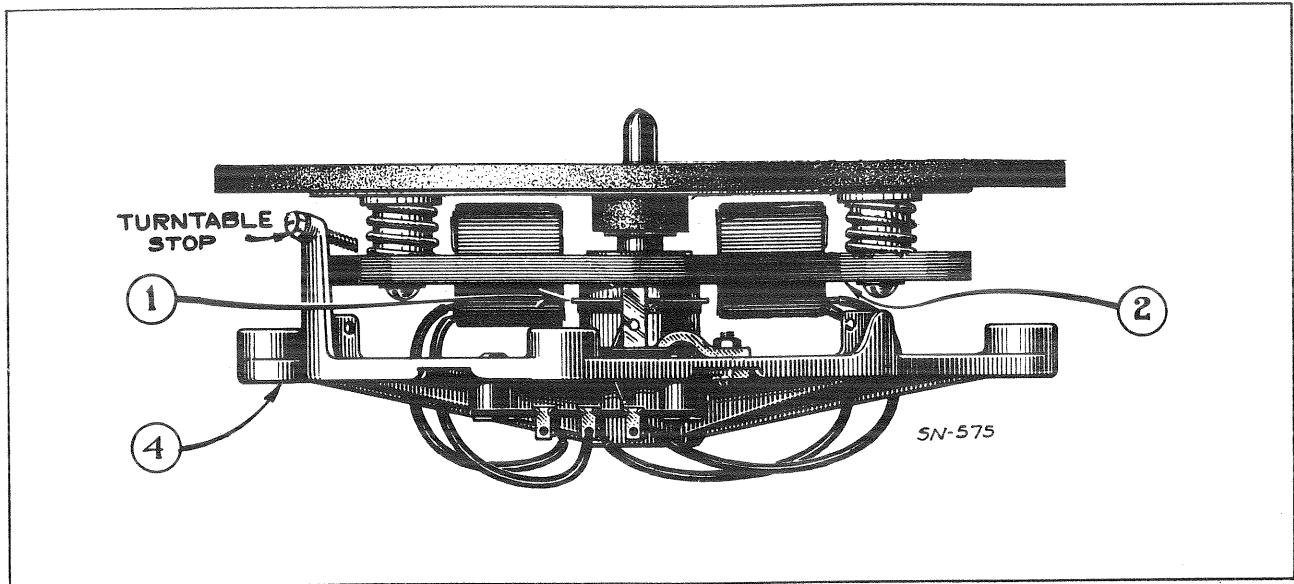
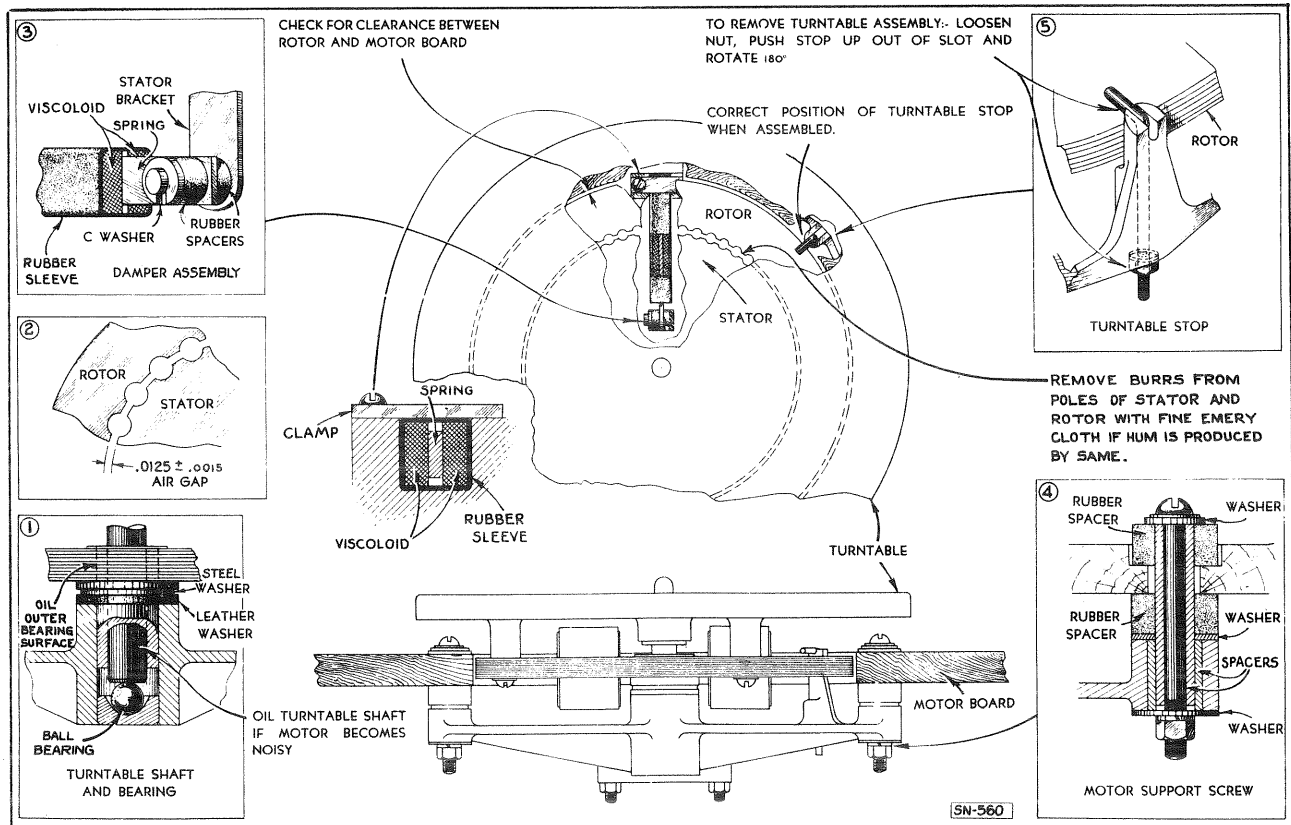

Figure 5—Details of Motor (First Production)
Figure 6—Details of Motor (Second Production)
NOTE: The motor used in the Second Production R-93 turntables is somewhat different from that used in the First Production. They are hereinafter designated as (1) First Production and (2) Second Production. Changes denoting the difference between the two types are indicated in Figure 5 (First Production) and Figure 6 (Second Production). Replacement Parts are likewise tabulated separately for each type.
tion, single moving part, ease of starting, viscoloid damper, and long life. The main parts of the motor and the points that may require attention are shown by Figure 5 (First Production) and Figure 6 (Second Production). The motor is started by turning "On" the power switch and giving the turntable a clockwise spin with the hand. If the motor is difficult to
- (1) First Production. Loosen the screw shown in Figure 5 until it clears the rotor. Then lift the turntable, being careful not to lose the steel ball of the end-bearing. After replacing the rotor, tighten the retaining screw securely.
- (2) Second Production. Loosen the nut shown in (5) of Figure 6, pushing the stop out of the slot and rotating 180 degrees. Then lift the turntable, being careful not to lose the ball end-bearing. After replacing the rotor, return the stop to its normal position and tighten the nut securely.